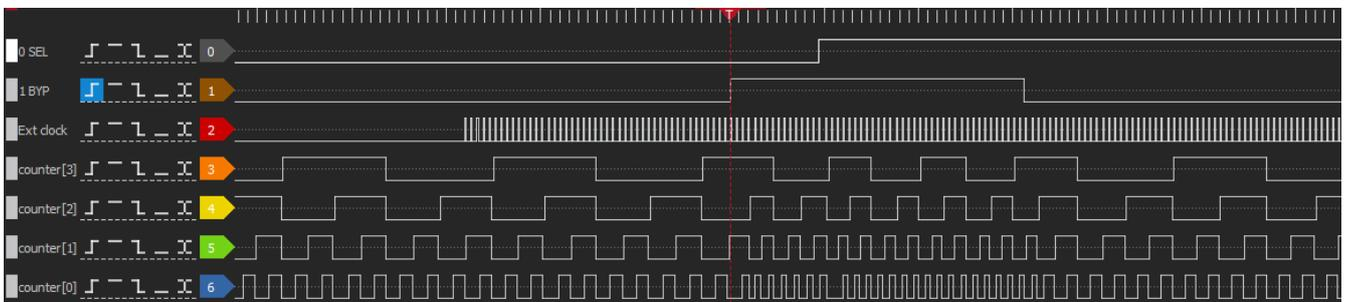

Figure 6: Change in sel and byp line to produce PLL_CLK of different frequencies
10. Connect the GPIO2 to the Synchronous Logic Generator, Configure GPIO0 and GPIO1 as buttons or synchronous Logic Generators to function as sel and byp signals for PLL_REF_CTRL_SEL and BYP_SEL and then observe the output from GPIO3, GPIO4, GPIO5 and GPIO6 on logic analyzer. In Figure 6 it can be observed that when there is a change in the sel and byp signals, then there is a corresponding change in the frequency of the switching of the counter depicting that the PLL is being driven by 2 different clock sources.